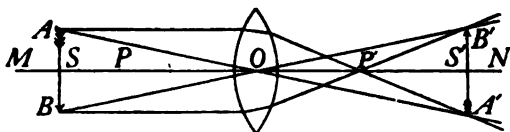

FIG. 383.—Construction of a real image by a convex lens
right angles to its greatest diameter and along this axis are certain definite positions as shown in Fig. 383. Let *MN* be the *principal axis* of a convex lens, *P* and *P'* are *principal foci* on either side of the lens, *S* and *S'* are *secondary foci*. These are at points on the principal axis that are twice as far from *O*, the center of the lens, as are the principal foci. In the formation of images by a convex lens, several distinct cases may be noticed:
(A) If a luminous body is at a *great distance* at the left, its light is brought to a *focus* at *P*, or its *image is formed* at *P*. (B) As the *object approaches* the lens the *image gradually recedes* until the object and image are at *S* and *S'*, *equally distant from O and of equal size* (as in Fig. 383). The object and image are now said to be at the *secondary foci* of the lens. (C) As the *object moves from S to P* the image recedes, rapidly increasing in size until (D) when